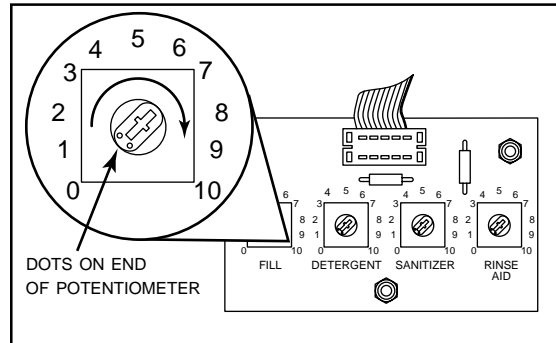

Figure 2.9.2
6. Refer to Fig. 2.9.2 showing the Fill/Chemical Dispenser Circuit Board.
7. There are (4) adjustable potentiometers.